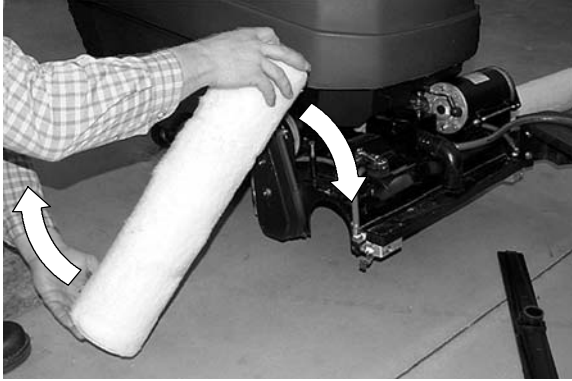

FIG. 27
1. Flip the ReadySpace rollers end-for-end every 10 hours of use (Figure 27). The roller life is rated for at least 100 hours of use under normal cleaning conditions. If the gap between the two rollers is greater than 4mm (5/32") replace the rollers.